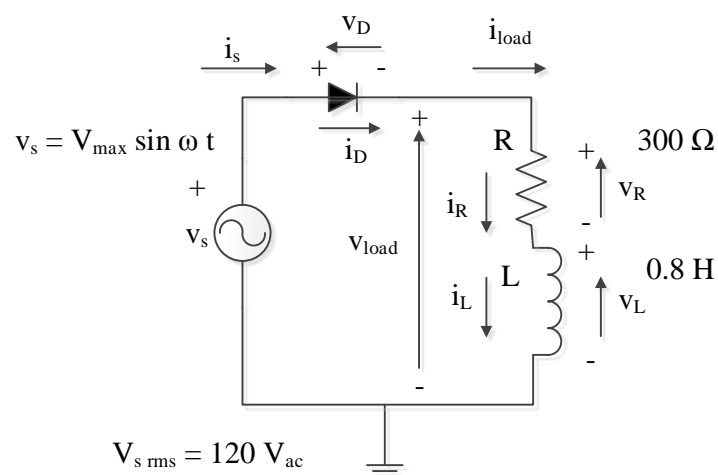

Figure 5. The diode circuit.
This introductory exercise will create a simple diode circuit in the SimPowerSystems environment. The circuit is shown in Fig. 5. The circuit consists of a sinusoidal source, a diode and a resistive-inductive (RL) load. The frequency of the source is 60 Hz and the rms value of the source is 120 Vac.